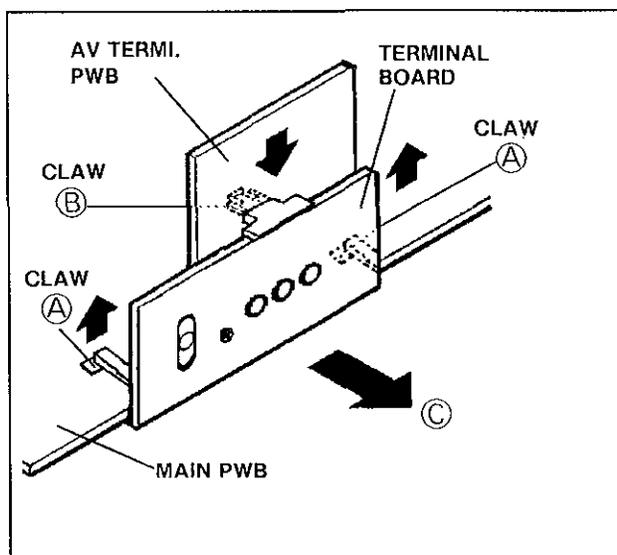

Fig. 3
2. Remove the claws marked Ⓐ and Ⓑ by widening slightly in the direction of arrow as shown in Fig.3.
3. Remove the TERMINAL BOARD in the direction of arrow marked Ⓒ as shown in Fig.3.